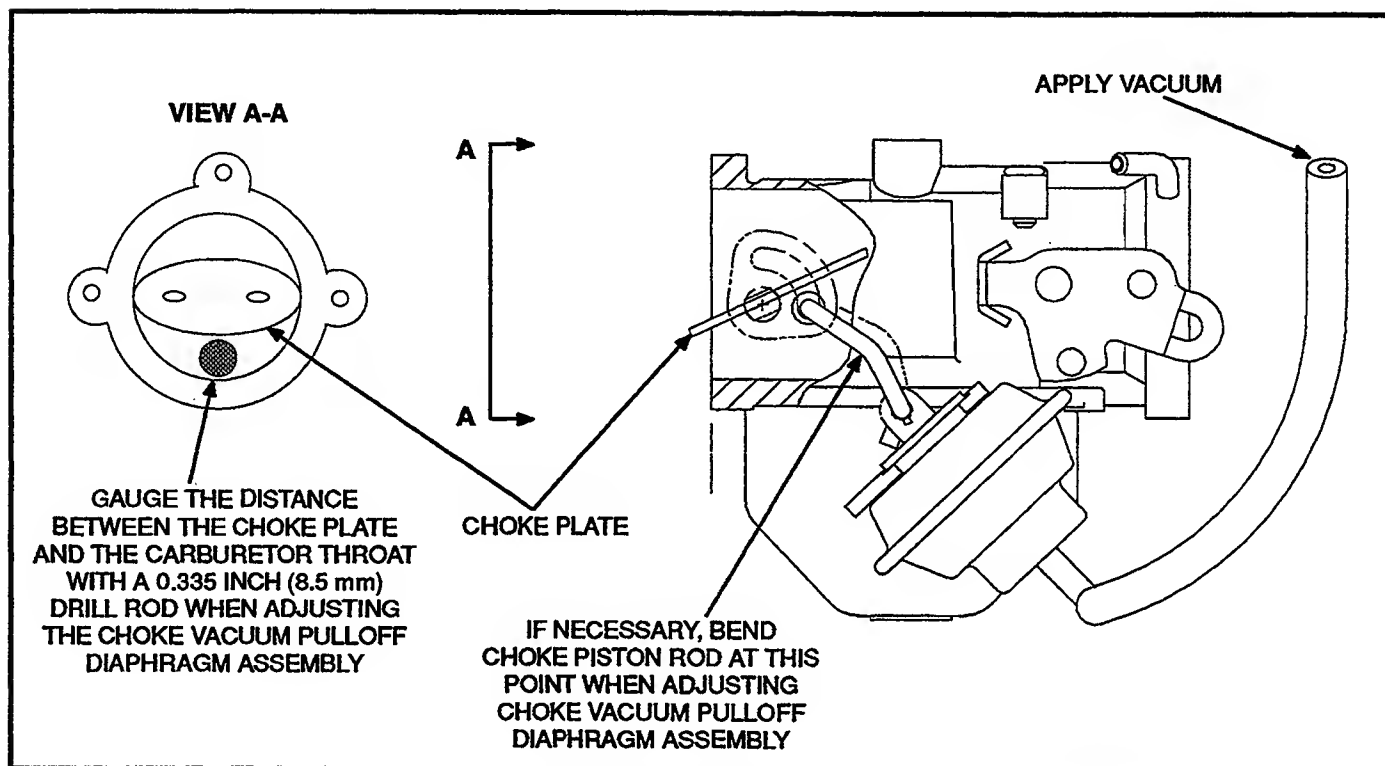

**FIGURE 6-3. CHOKE ASSEMBLY**
The automatic choke is operated by a bi-metal/heater assembly (Figure 6-3) and a vacuum pulloff diaphragm assembly (Figure 6-4). The pulloff diaphragm assembly is used to partially open the choke when the engine first starts.
If the automatic choke will not heat properly, check for 12 volts DC at the heating element terminals during engine starting. If not present, troubleshoot defective wiring. If present, check the heater resistance with an ohmmeter. With the element at room temperature, resistance should be about 2.5 to 3 ohms. If the heating element is defective, replace the bi-metal cover assembly (Figure 6-3) as follows.
7. Turn the body of the bi-metal cover to select the appropriate model (JB or JC) of the genset (see Figure 6-3) and tighten the three screws to secure the cover assembly to the carburetor.